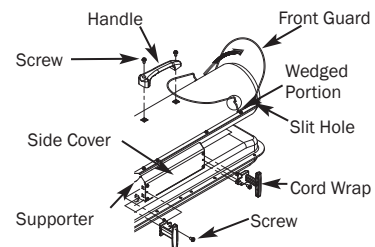

Figure 4 - Handle and Cord Wrap Installation CP045DK and CP075DK
2. Align the holes in upper housing with two mounting holes on the handle as shown in Figure 4.
4. Insert cord wrap into the rectangle holes on the supporter and align the hole on the cord wrap with the mounting hole on the side covers shown in Figure 4.